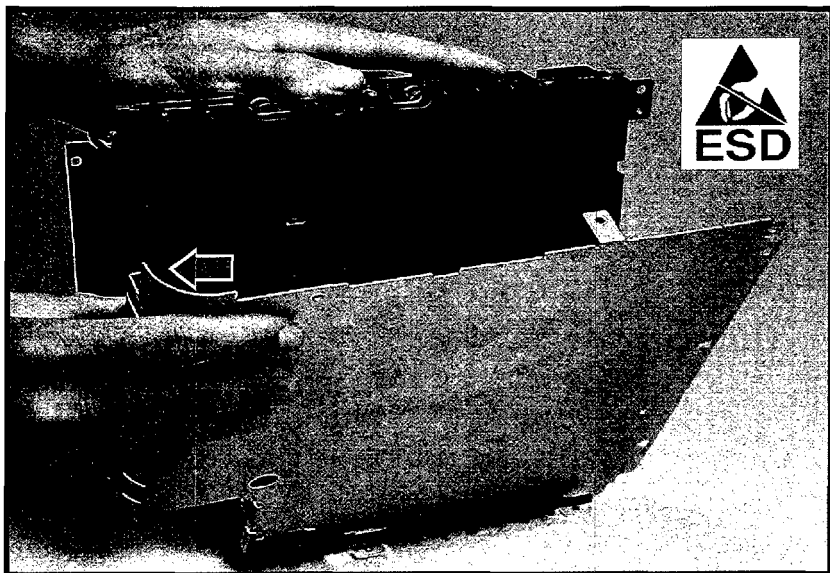

Figure 6-39 Removing the Metal Backing Plate
4. Remove the metal backing plate by releasing pressure on the curved portion, then tilting the plate out (Figure 6-39).